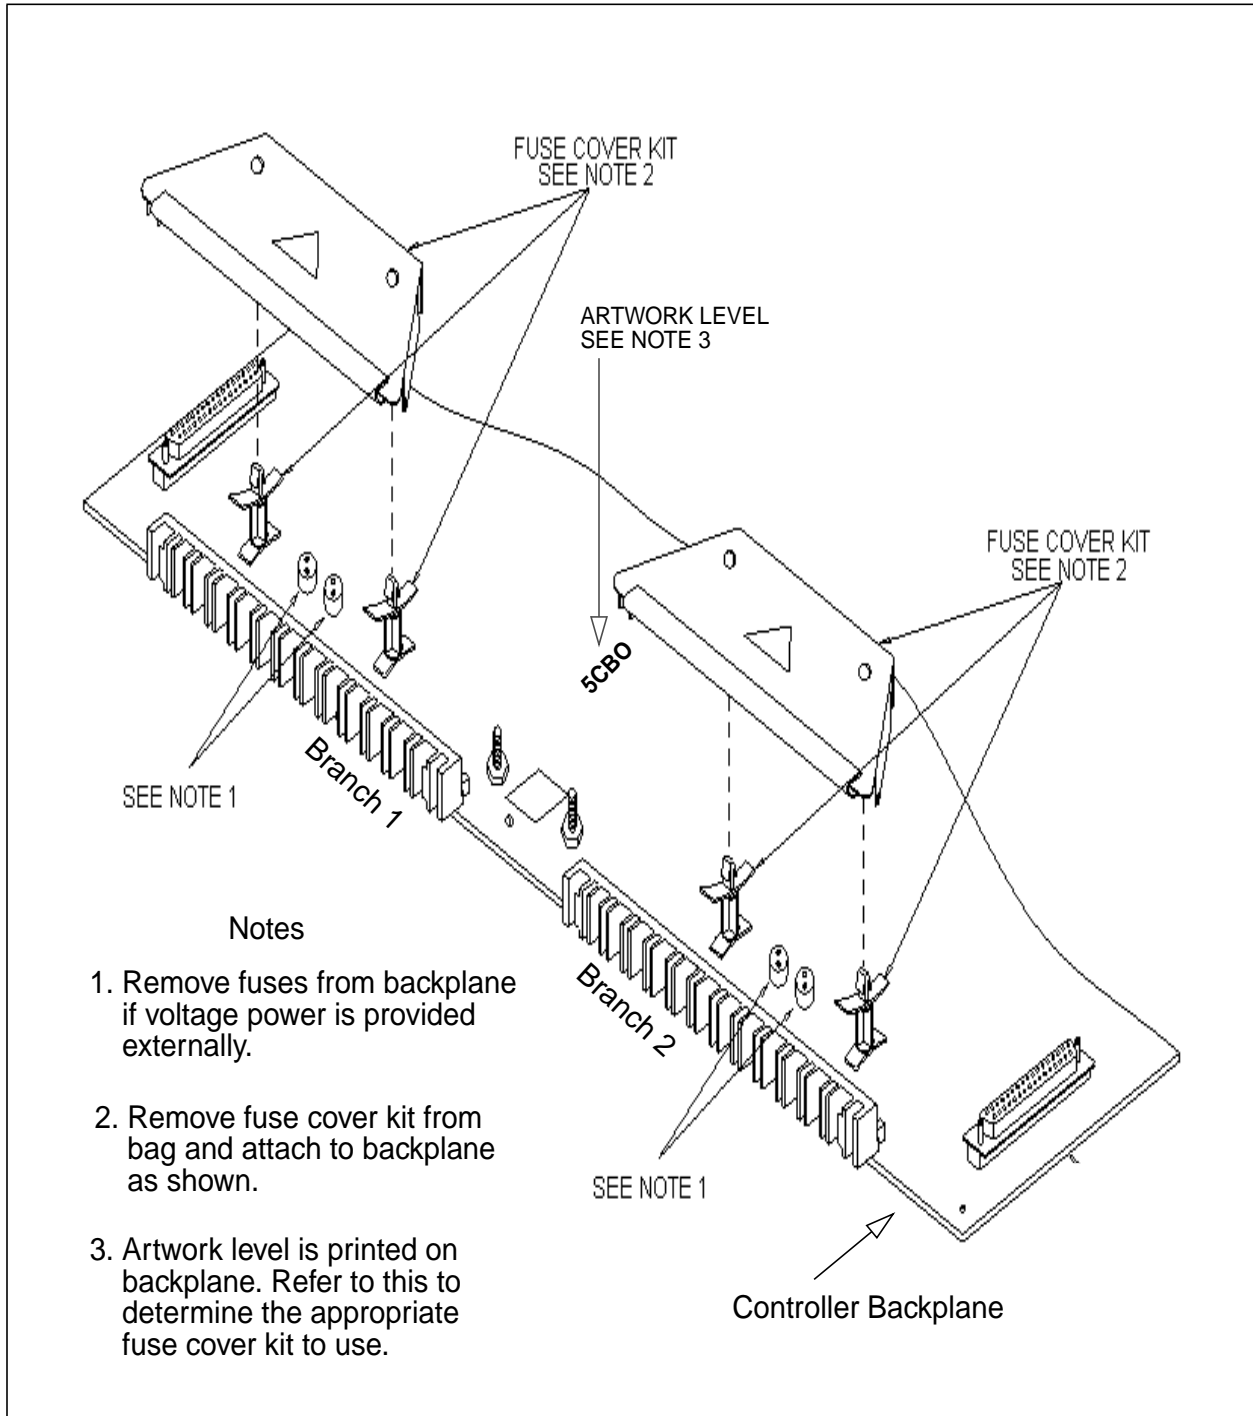

Figure D-4. Fuse Locations on Backplane
3. If the I/O branch is associated with a backplane (CBO), refer to Figure D-4 and perform the following: